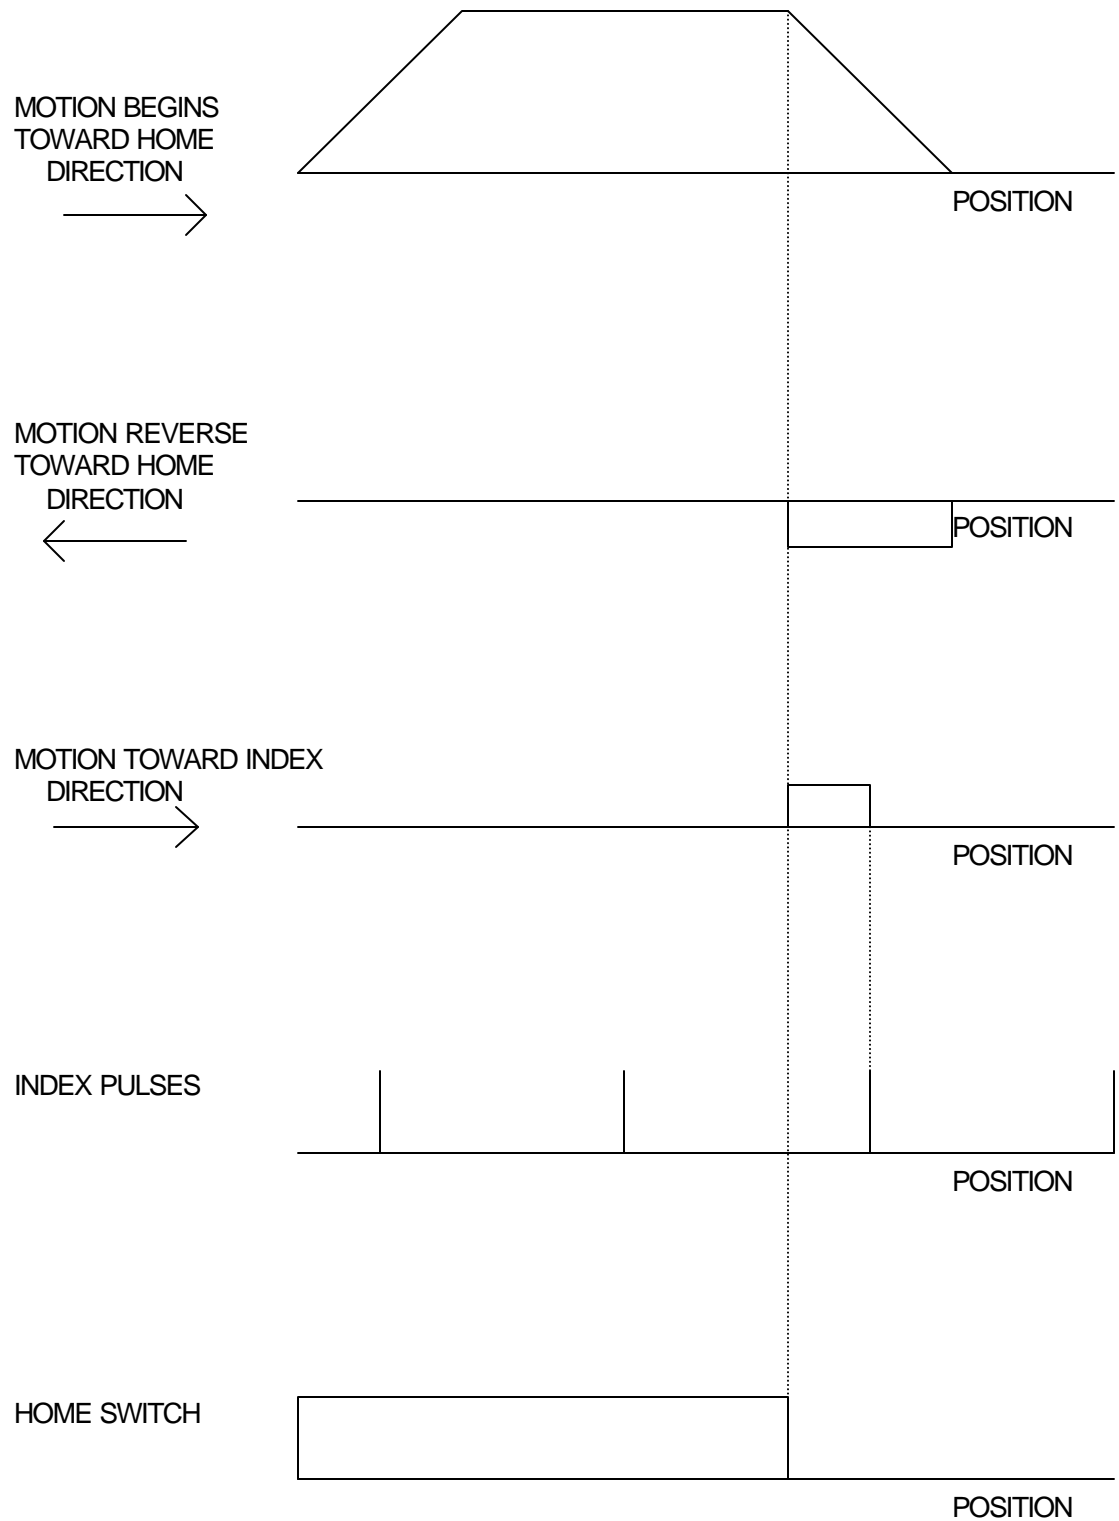

Figure 6.7 - Motion intervals in the Home sequence
The Find Edge (FE) instruction is useful for initializing the motor to a home switch. The home switch is connected to the Homing Input. When the Find Edge command and Begin is used, the motor will accelerate up to the slew speed and slew until a transition is detected on the Homing line. The motor will then decelerate to a stop. A high deceleration value must be input before the find edge command is issued for the motor to decelerate rapidly after sensing the home switch. The velocity profile generated is shown in Fig. 6.7.